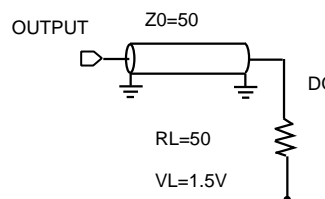
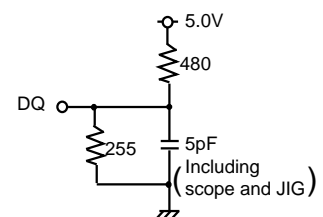

Fig.1 Output load
Fig.2 Output load for t_{en}, t_{dis}
Output loads Fig1 ,Fig2
4. Transition is measured $\pm 500\text{mV}$ from steady state voltage with specified loading in Figure 2.